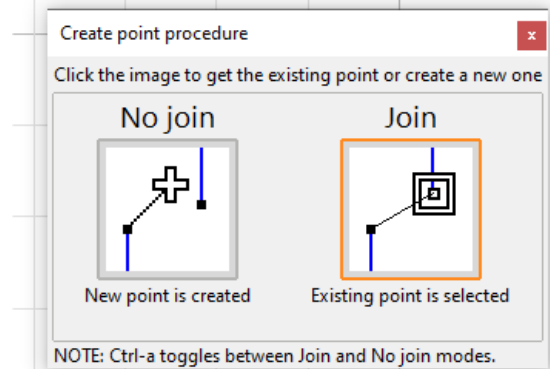

Fig. 22 - Assigning structured mesh parameters to surface.
6. Go to **Mesh > Structured > Surfaces > Assign number of divisions to surface lines** (Fig. 22) and select the trapezoidal surface then press **Esc** to confirm.